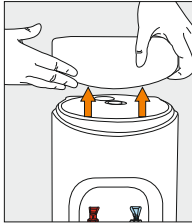
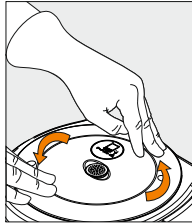
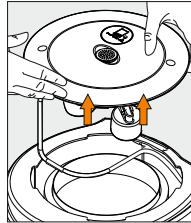
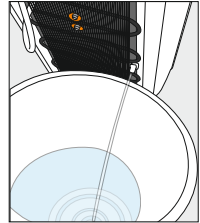

Figure 29
Figure 30
Figure 31
Figure 32
3. Remove the POU Cover (if installed) (Figure 29) Use the fingertips of both hands to press on the POU Lid Assembly and turn counter clockwise till it is free from the cooler opening. (Figure 30 and Figure 31) Lift off of the cooler, and set aside. Drain the water from the reservoir and hot tank (Figure 32), remembering to cool and drain hot tank. Allow 1 hour for hot water to cool down.